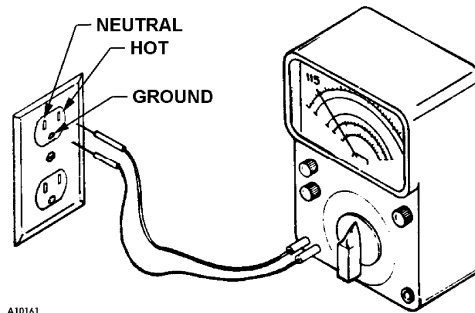

Figure 2. 115 Volt Outlet
1. **Voltage Check:** With a Volt-Meter set to check AC line voltage, insert one connector to the **HOT** terminal and the other connector to the **NEUTRAL** terminal. The voltmeter should indicate 103 to 126 Volts AC. See Figure 2.
2. **Polarity and Ground Check:** With a Volt-Meter set to check AC line voltage, insert one connector to the **HOT** terminal and the other connector to the **GROUND** terminal. The voltmeter should indicate 103 to 126 Volts AC. See Figure 2.
NOTE The "HOT" side of the outlet should always be counter-clockwise from the "GROUND" terminal, with the ground terminal at the bottom. The "NEUTRAL" terminal will be clockwise from the "ground" terminal. See Figure 2.